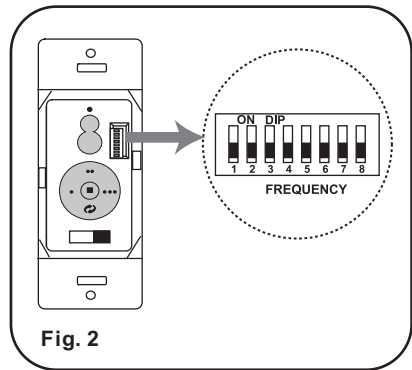

Fig. 2
**NOTE:** The Aire Control® System is equipped with a learning frequency function which has 256 code combinations to prevent potential interference from other remote units. The frequency on your Receiver and Transmitter units have been preset at the factory. (Fig. 2) No frequency change is necessary, should you desire to install another fan within the same home or area with a separate frequency code please see the "frequency interference" troubleshooting section of this instruction manual to learn how to change the frequency.